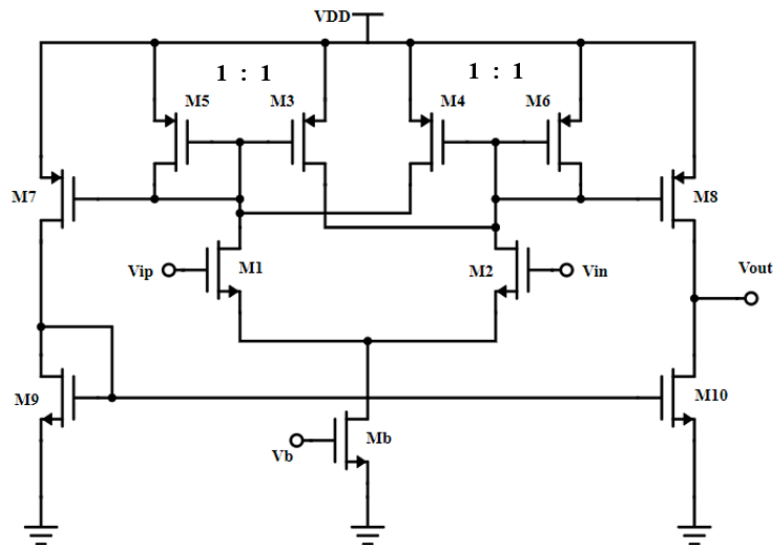

Fig. 6. architecture of Comparator
In this part, you are asked to analyze and design the comparator, as depicted in Figure 6.
- Complete the design of the comparator (An opamp connected with an inverter chain) and describe your design in detail, including the schematic, operation points of all the transistors (you should draw your schematic and mark the DC voltage and current on it), and how you run the simulations. For your reference, a basic implementation is shown in Fig. 6.